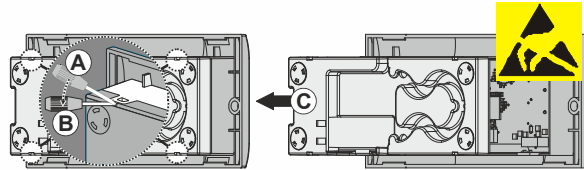
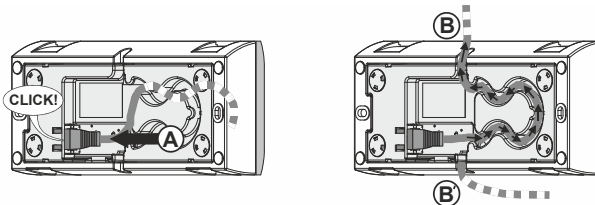
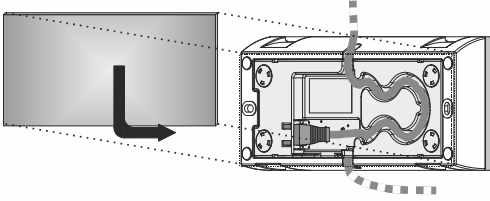

Fig. 3. Removing cover
Fig. 7. Plugging cable and looping through guide
Fig. 9. Attaching metal plate
1. Remove the cover (see Fig. 3). Observe precautions for handling electrostatic sensitive devices so as not to damage the open printed wiring assembly.
5. Plug the connection cable into the RJ45 socket and loop through the cable guide for strain relief (see Fig. 7). The cable can exit the unit either through the upper (B) or lower (B') outlet.
In the case of the handheld option, proceed as described in Fig. 3 to Fig. 7). Finally, attach the metal plate (see Fig. 9), which completely covers the rear of the device.
3. Finally, plug the connection cable into the RJ45 socket and loop it through the cable guide and cable outlet (see Fig. 7).
4. Finally, plug the connection cable into the RJ45 socket, loop it through the cable guide and cable outlet (see Fig. 7), and then click the CLEAHMI21 into the sub-base.